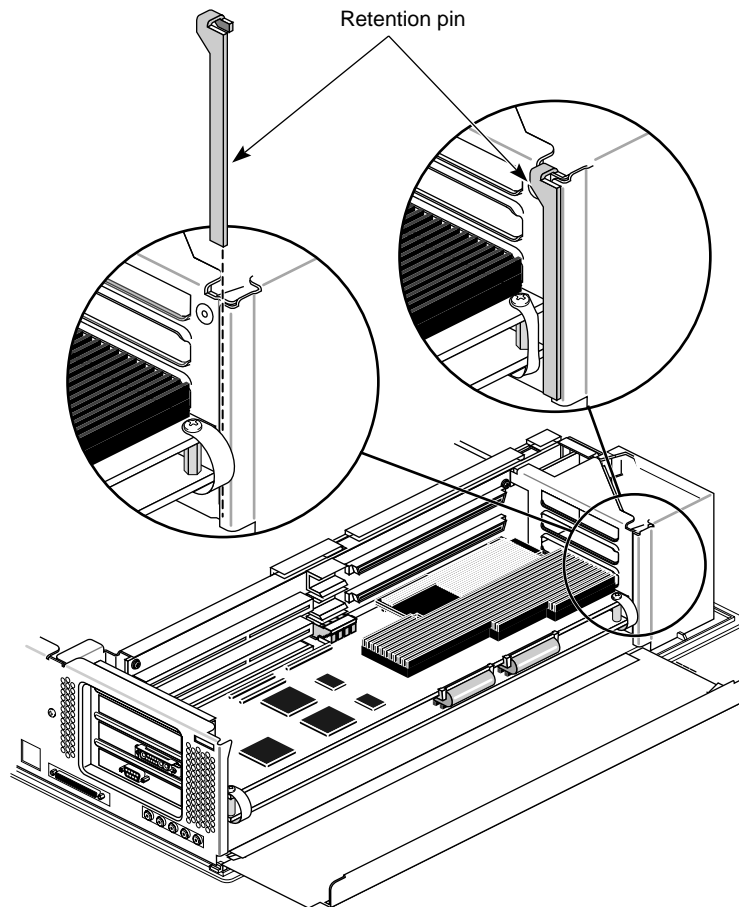

Figure 5-9 Releasing the Retention Pin
- Grasp the retention pin on the right front end of the board set and pull it up and off. See Figure 5-9.